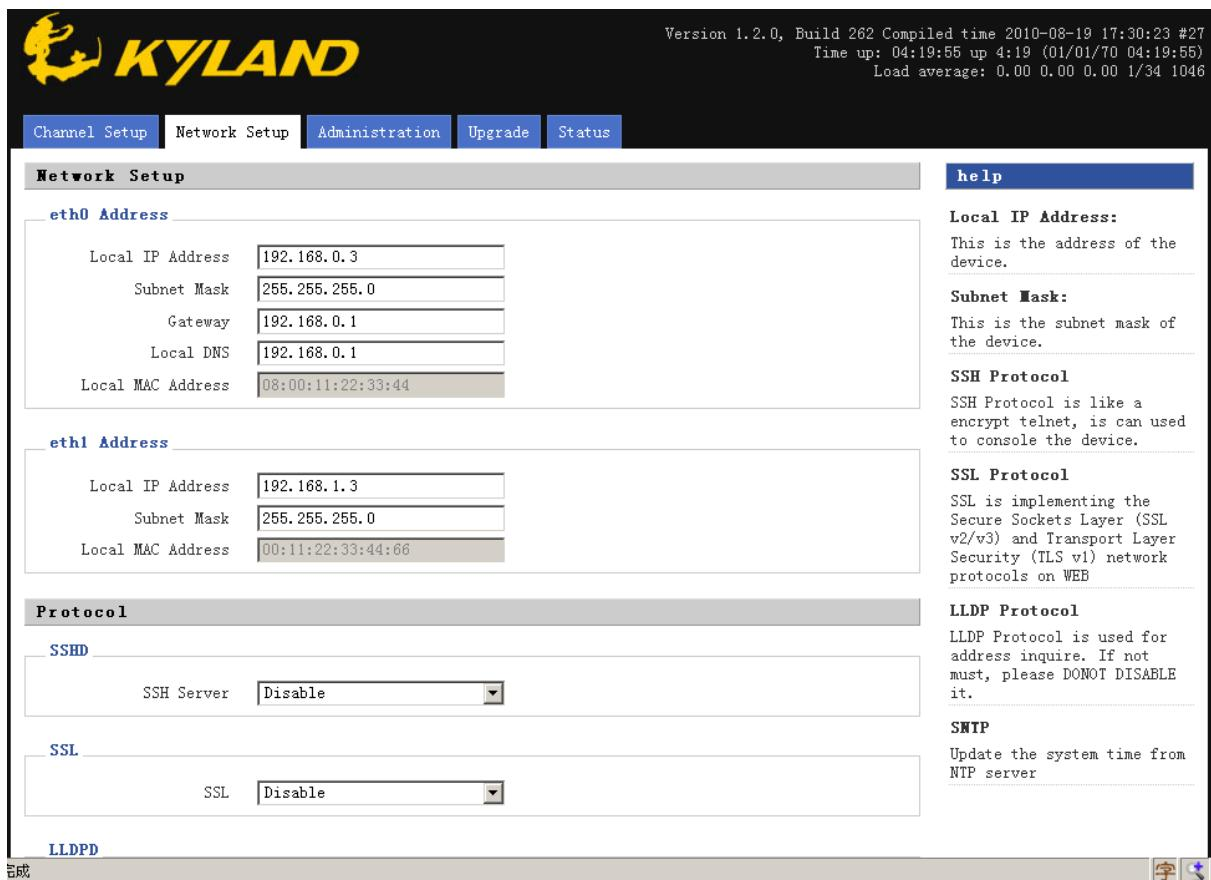

Figure 2-6 Serial server network parameter configuration
- Enter WEB main page of serial server; click “Network Setup” in the main menu to enter network configuration page as Figure 2-6